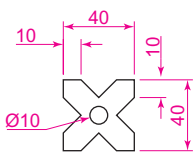

Fig. 5.15 First example – Array – drawing to be arrayed
- Construct the drawing Fig. 5.15.